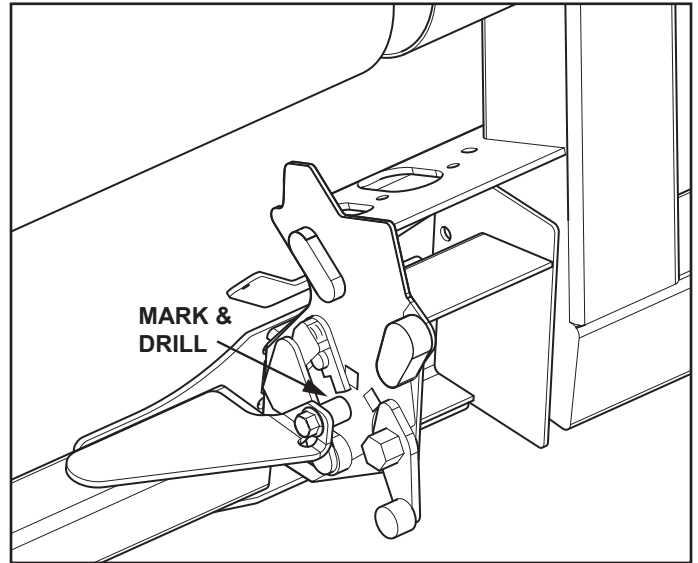

Figure 14: Main mount bracket location, from front right side (Portions of header and Belt drive/fan assembly not shown)
2. Mark and drill 17/32" hole, refer to Figure 14. Install 1/2 X 2-3/4 bolt and nut.